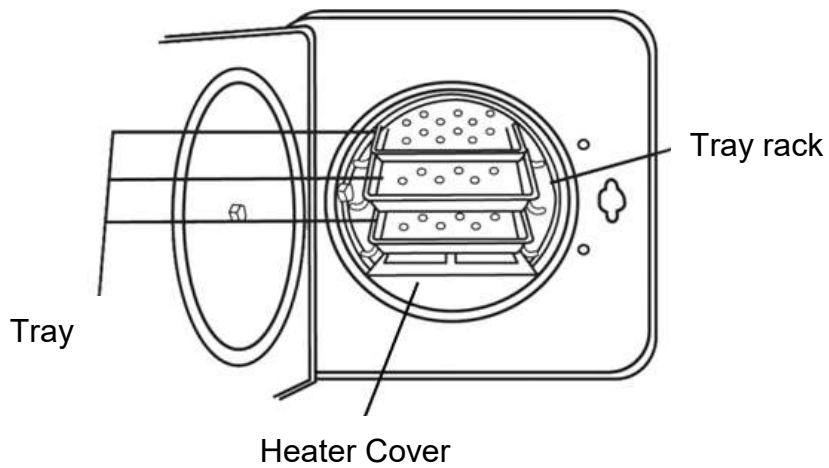

Figure 14
D. Install the trays as shown in Figure 14 (standard accessory).